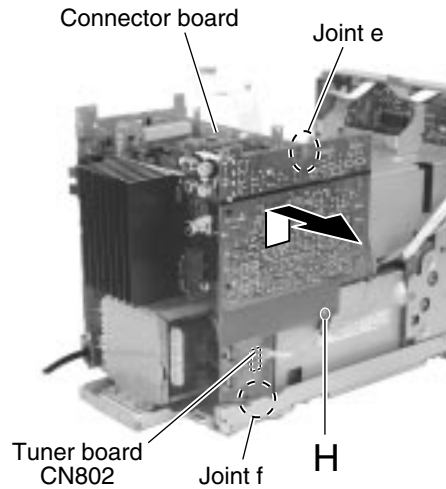

Fig.13
■ **Removing the tuner board (See Fig.13)**